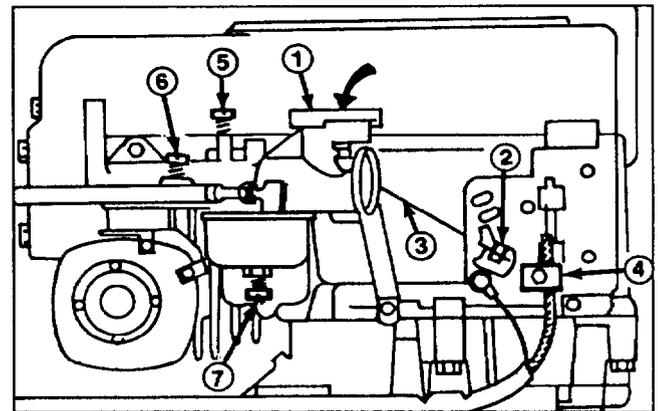

Figure 21
1. Remove the screws holding air cleaner in place and lift complete air cleaner assembly off carburetor (Fig. 21).
2. Move throttle control lever to CHOKE position and check the position of the choke butterfly; it should be fully closed (Fig. 21).
3. Move throttle control lever to FAST position. The butterfly should be in the fully open position (Fig. 21).
2. Loosen the throttle cable clamp screw (Fig. 21) and move the control cable casing and wire until the throttle lever touches link.
1. Needle Valve (Fig. 21) — Close valve by gently rotating it clockwise.
2. Rotate—open—the needle valve 2 turns counterclockwise (Fig. 21).
4. Rotate needle valve (Fig. 21) clockwise, 1/8 turn at a time, until engine starts to lose speed. Let engine react to each 1/8 turn setting.
5. Rotate needle valve (Fig. 21) counterclockwise — out — 1/8 turn at a time, until engine first runs rough. Let engine react to each 1/8 turn setting.
6. Rotate needle valve (Fig. 21) clockwise — in — very slowly until engine starts to run smoothly. This setting, under no load, may be slightly rich; however, the slightly rich setting will assure proper operation when engine is under load.